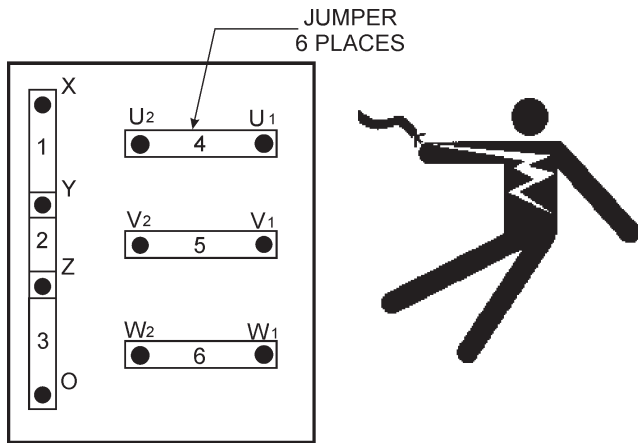

Figure 15. Voltage Change-Over Board
A wide range of voltages are available to supply voltage for many different applications. Voltages are selected by applying jumpers (6) to the **voltage change-over board** (Figure 15). To obtain some of the voltages as listed in Table 7 (see below) will require a fine adjustment using the **voltage regulator (VR) control knob** located on the control panel.
The **voltage change-over board** (Figure 15) is located on the control box, behind the generator control panel. This board has been provided for ease of voltage selection.